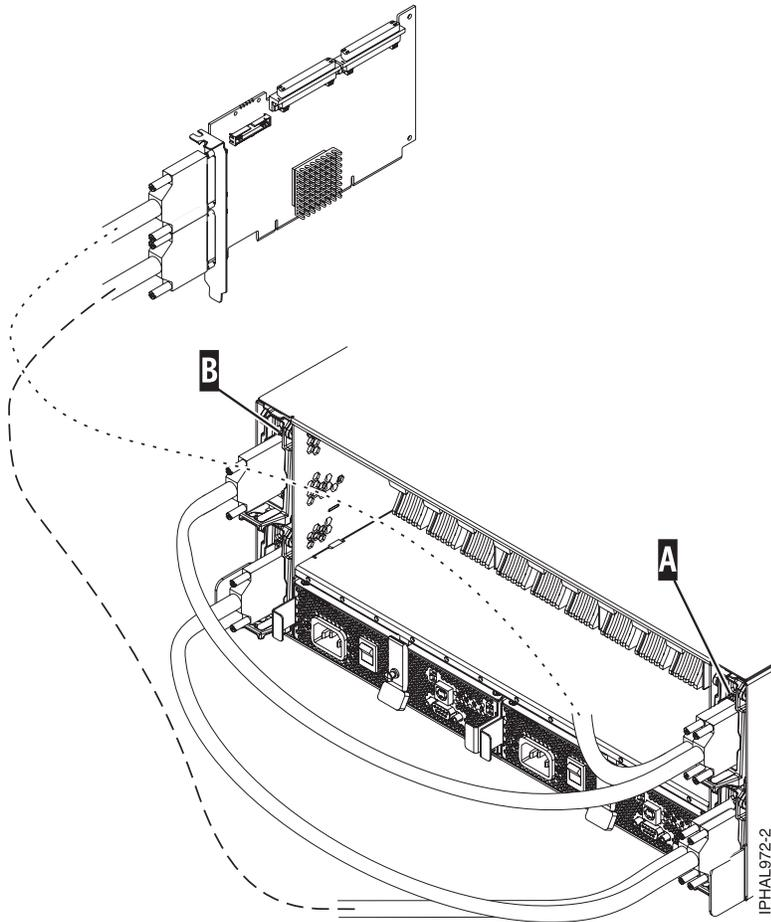

Figure 19. SCSI cable to dual repeater card connected to single repeater card
- If you are using a combination of single and dual repeater cards, install a SCSI cable to the dual initiator repeater card **A**. Then, connect the dual repeater card **A** to the single repeater card **B** with a different SCSI cable. For more information, see Figure 19 on page 41.